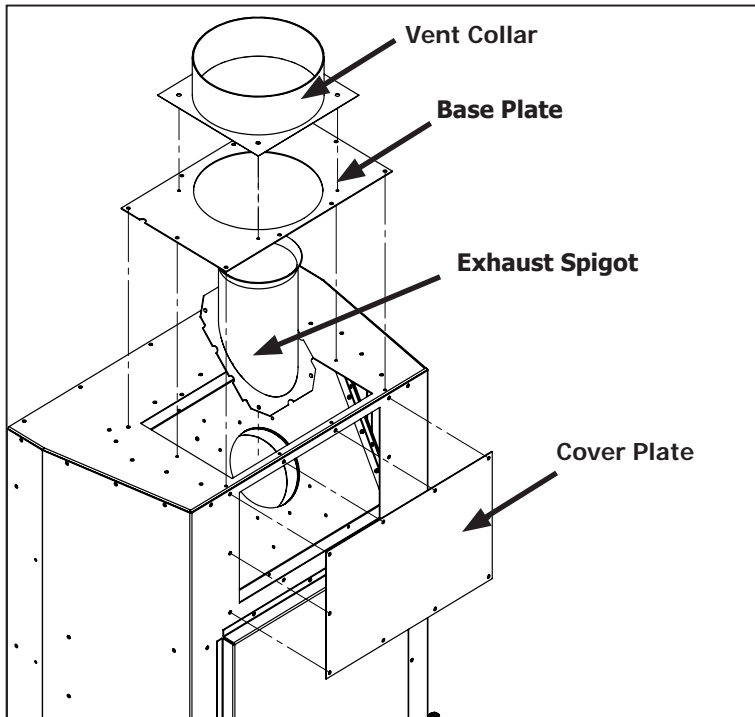

Figure 24: Vent Conversion - Step 1
Step 1: Using a T20 screwdriver remove the vent collar, base plate, cover plate and exhaust spigot (28 screws total) as shown in Figure 24.